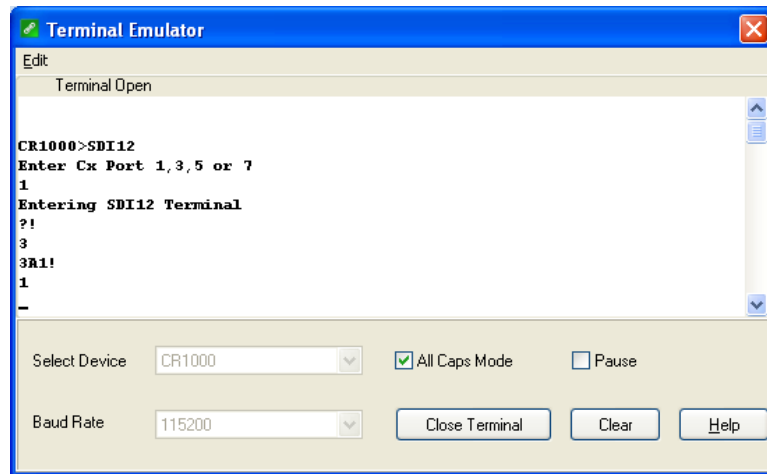

FIGURE D-2. CR1000 example of using the SDI-12 transparent mode to change the SDI-12 address from 3 to 1. Sensor is connected to control port 1.
6. To change the SDI-12 address, key in *aAb!<enter>*, where *a* is the current address from the above step and *b* is the new address (see FIGURE D-2). The sensor will change its address and the datalogger will respond with the new address. To exit SDI-12 transparent mode, select the **Close Terminal** button.